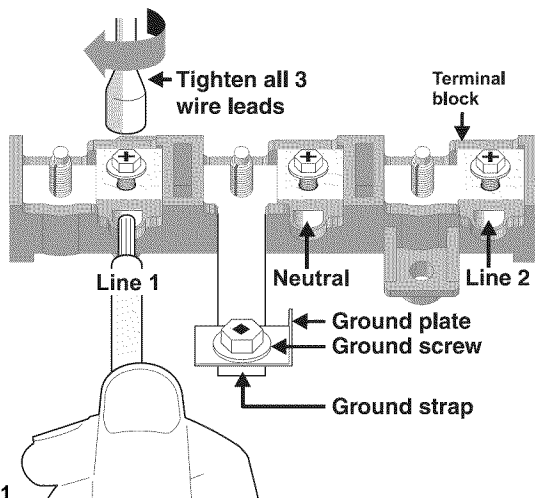

Fig. 31
2. **3 and 4 - Wire Permanent Connections** - Strip insulation away from the ends of the permanent wiring for Line 1, Line 2, Neutral (also strip ground wire on 4-Wire Connections). Tighten all 3 wire leads to the terminal block (follow wire locations shown in Fig. 31).